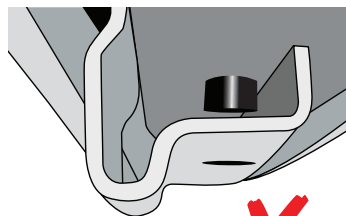

fig. 14a
2. Two spacer (BB or CC) lengths are supplied to properly fit between the frame jounce bumper bracket and frame. Which one is used depends on the model. Use the spacer that can be inserted where the stock jounce bumper was removed, which when butted against the frame, will be flush (or close to) the bottom of the jounce bumper bracket that is riveted to the frame (Figs. 14a, 14b & 14c).